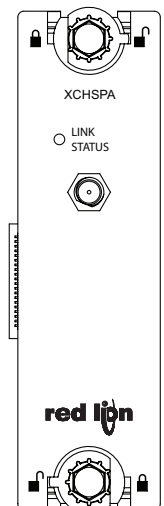

Figure 3
3. Verify that the option card knobs are in the “unlocked” position as shown in Figure 3.